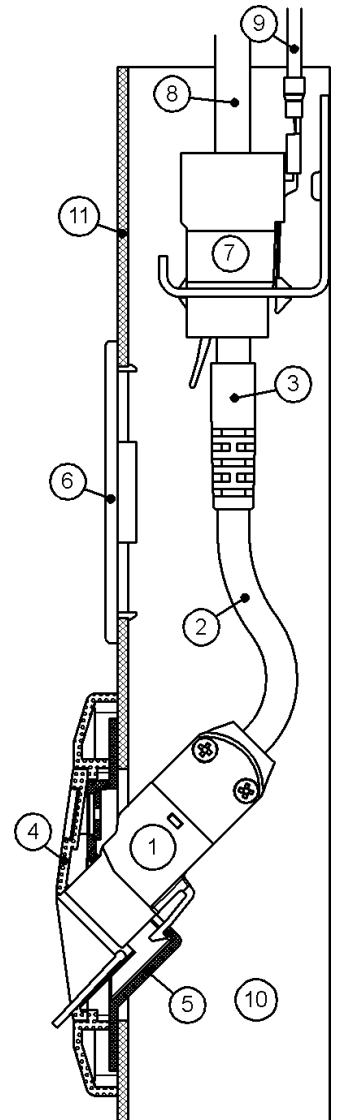
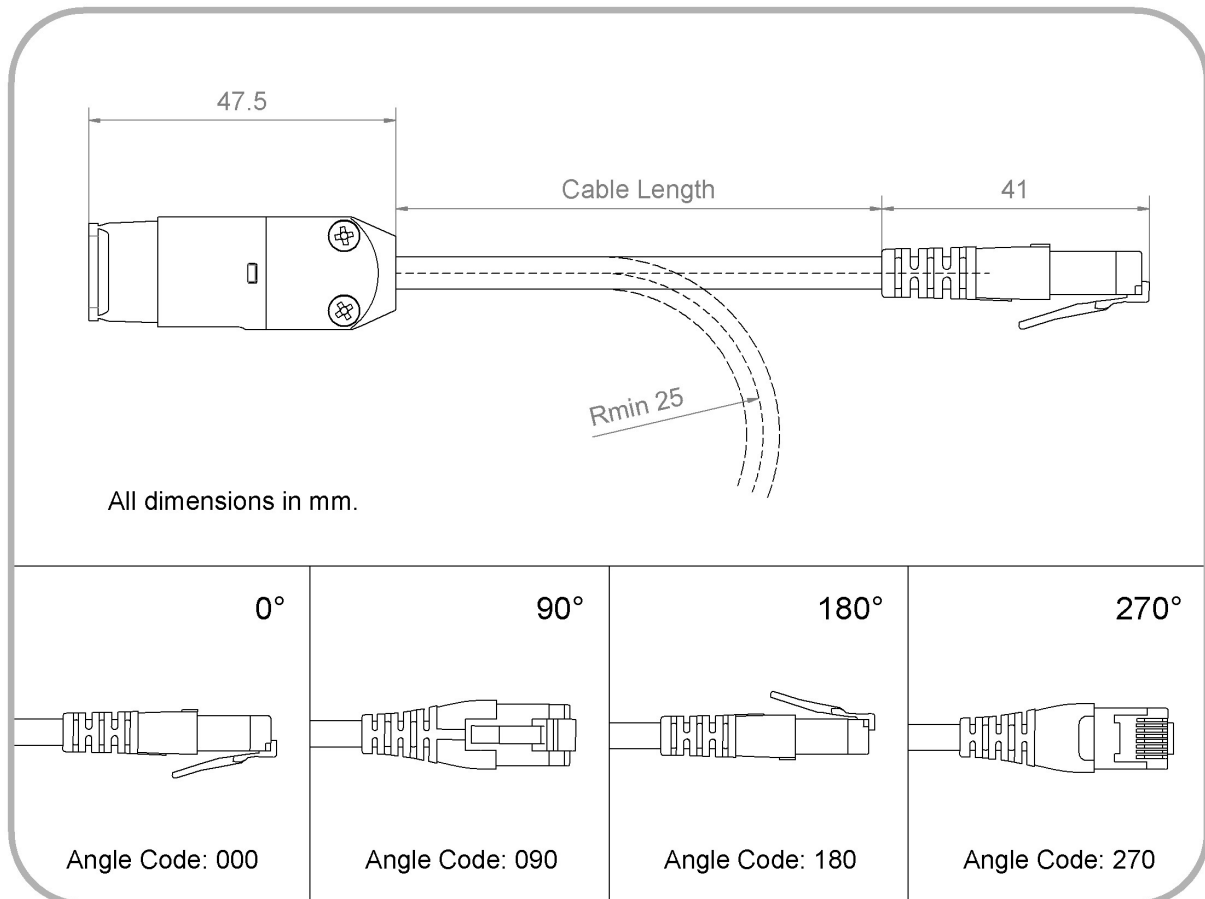
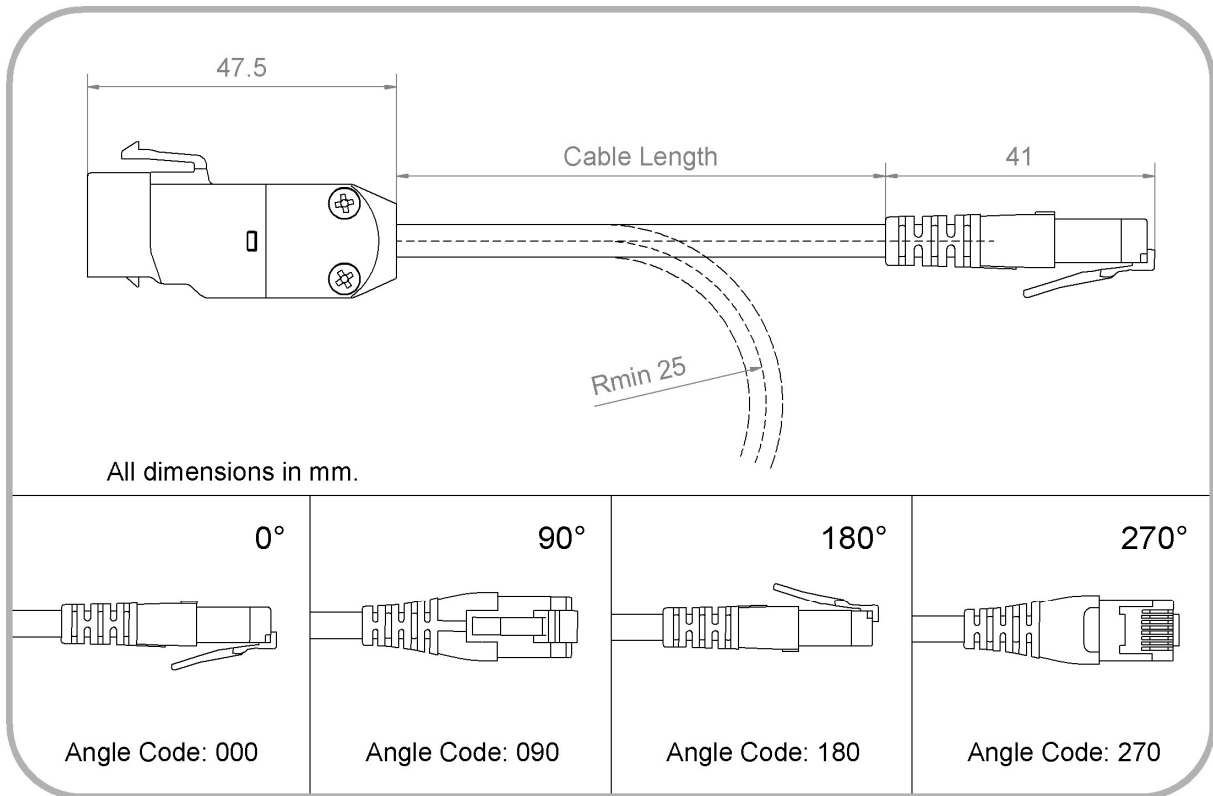

Figure 6
Figure 8. Technical drawing for EN-65S, showing definition of cable length, as well as angle codes.
Figure 9. Technical drawing for EN-65K, showing definition of cable length, as well as angle codes.
Figure 6 shows a typical assembly within a cable duct (10), with cover (11). The Network Isolator EN-65K (1) is shown installed in a Keystone-compatible wall outlet, which usually consists of a support frame (5) and a plastic front panel (4). The RJ45 plug (3) of the Network Isolator is to be inserted into a RJ45 jack module termination (7) at the end of the permanently installed data cable (8). When retrofitting the Network Isolator EN-65K (1) into network channels, the existing RJ45 jack module from the wall outlet can be shifted back within the cable duct (10), and used as the connection to the Network Isolator.
The transmission properties of permanent network installations fitted with EN-65 Network Isolators can be checked with cable certification devices which are suitable for testing electrically isolated cable sections. To be able to conduct such an inspection, the test equipment must be configured in an AC wire-map mode. The entire cable route, including the Network Isolator, can be tested to EIA/TIA-568 Cat.5e or ISO 11801 Class D. Testing of the cable shielding and the conductor resistance is not possible in this mode. If however, these tests are required, or if the quality of the cable route itself needs to be tested (without the Network Isolator), then testing can be performed by bypassing the Network Isolator, and connecting directly to the RJ45 socket ⑦, set back within the cable duct, as indicated in Figure 6.
The length of the flexible cable stub ② (see Figure 6 in section 0) of the EN-65 Network Isolator is available in selected lengths from 30 mm to 10 m (inclusive). Refer to Figure 8 and Figure 9, as well as the table in section 0. It is recommended that this length be kept to a minimum. When compared to a fixed installed cable, this flexible cable stub may be more susceptible to near end crosstalk (NEXT) and alien crosstalk (AXT). The flexible cable stub itself generates a small, but length-dependent amount of insertion loss (IL).
For flexible cable stub lengths between 30 mm and 500 mm (inclusive), the plug angle can be chosen, easing mechanical constraints in certain assembly configurations, and removing impermissible torsion strains from the cable assembly. Refer to Figure 8 and Figure 9. The manufacturing tolerance for the plug angle is $\pm 20^\circ$.
When placing orders for EN-65, please specify the exact Order Code (OC). The order number is a hyphenated concatenation of the Article Number (A10068 for EN-65K, or A10069 for EN-65S), the Length Code for the desired cable length (see section 0 above), and the Angle Code for the desired plug angle (see Figure 8 and Figure 9). For flexible cable stub lengths greater than 500 mm, the EN-65 will always be manufactured with a plug angle of 0°, and the Angle Code can be omitted for such orders.